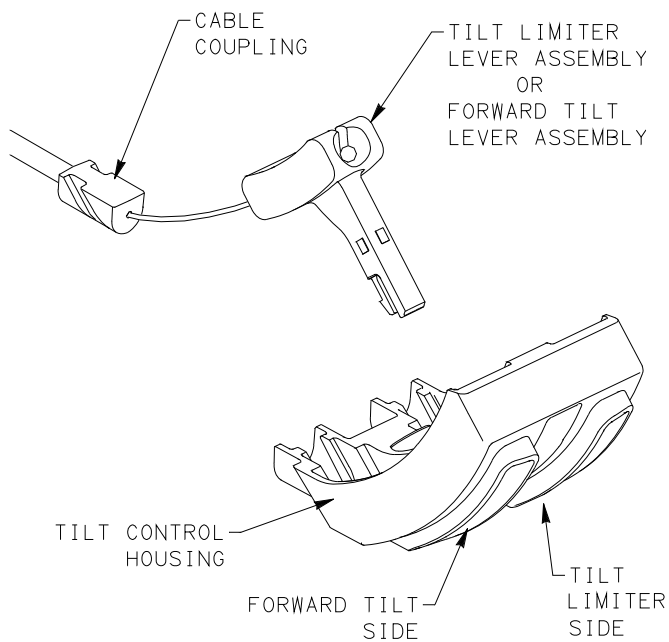

FIGURE 14
10. REMOVE TILT LIMITER LEVER ASSEMBLY FROM TILT CONTROL HOUSING. IF CHAIR IS MANUFACTURED WITH FORWARD TILT OPTION, REMOVE FORWARD TILT LEVER ASSEMBLY FROM TILT CONTROL HOUSING. SEE FIGURE 14.
10. PIVOT LEVER BACK TOWARD CABLE COUPLER UNTIL CABLE LINES UP WITH SLOT IN LEVER AND SLIDE LEVER OFF FROM CABLE. SEE FIGURE 14.
11. PIVOT REPLACEMENT LEVER TO LINE UP SLOT IN LEVER WITH CABLE AND SLIDE TOGETHER. SEE FIGURE 14.